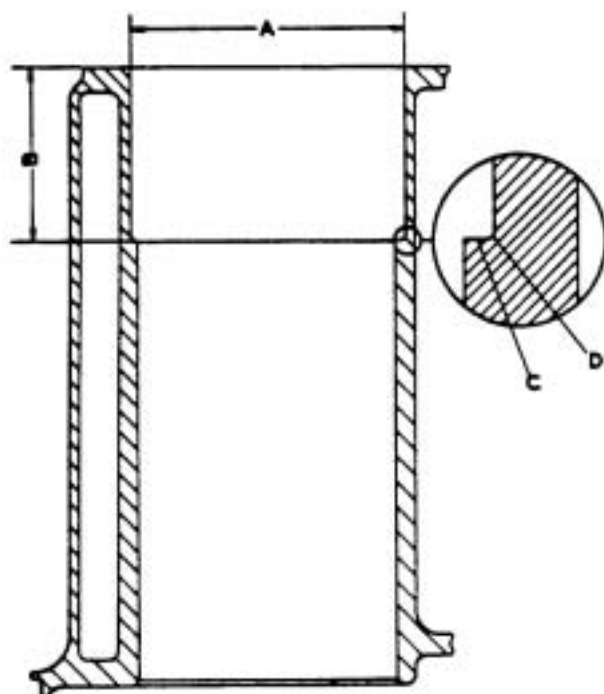
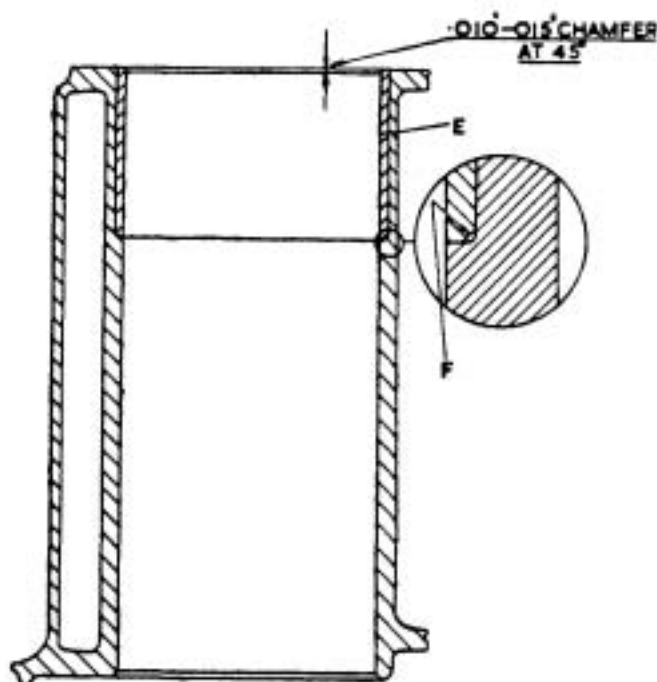

FIG.1. SECTION - CYLINDER-SHOWING COUNTERBORE.
FIG.2. SECTION - CYLINDER - SHORT LINER IN POSITION.
cylinder bore. Next, adjust the boring cutter so that the first cut is heavy enough to get underneath the original chromium plating and counterbore the cylinder to a depth of 2.245" to 2.250" (57.02 to 57.15 m/m). See 'B' Fig.1.
The bottom face, 'C' Fig.1, of the counterbore must be machined perfectly true. Any slight discrepancy on this end will cause a gap on one part of the "butt" joint.
- (v) Before pressing in the liners, ensure that the radius, 'D' Fig.1, is smaller than the chamfer ('F' Fig.2) on the lower end of the liners, so that there will be no interference at the butt joints when the liners are pressed fully home.
- (1) To assist in obtaining the required interference of .0025" to .0035" (.06 to .09 m/m) between the liner and the cylinder counterbore, 'A' Fig.1, the liner RE-6017, is colour coded (graded) in the bore as follows:-
NOTE: If, when measuring the diameter of a counterbore ('A' Fig.1), it exceeds 3.6265" (92.11 m/m), it will be necessary to fit an R-4610 oversize short liner. This liner is marked with white paint and has an external diameter of 3.631" to 3.632" (92.23 to 92.25 m/m), and one should be selected that will not allow an interference exceeding .004" (.1 m/m), or less than .0025" (.06 m/m).
- (ix) With a half-round scraper, cut a .010" to .015" (.25 to .38 m/m) chamfer at about 45° at the upper end of each liner, as shown in Fig.2.
- (ii) With a half-round scraper, cut a .010" to .015" (.25 to .38 m/m) chamfer at about 45° at the upper end of each liner as shown in Fig.2.
If short liners ('E' Fig.2) have not been incorporated (on chassis prior to B-144-DA), it will be necessary to counterbore the unaffected (un-scored) cylinders at their upper end and fit a short Bricrome liner, RE-6017; irrespective to fitting twin liners to one or more of the bores.
- Bore out the short liner in stages, until it has a wall thickness of not more than $.075" (.38 \text{ mm})$. This operation must be carefully carried out in order that the boring cutter does not contact the cylinder counterbore. As a guide when boring, it should be borne in mind that the external diameter of the liner (in position) is $3.625" (92.07 \text{ mm})$ i.e. the same diameter as the counterbore 'A' Fig.1. From the upper face of the cylinder block, the liner should be bored to a depth of $2.250"$ to $2.251" (57.15 \text{ to } 57.27 \text{ mm})$.
- (ix) With a half round scraper, cut a .010" to .015" (.25 to .38 m/m) chamfer at about 45° at the upper end of the liner/s as shown in Fig.2.